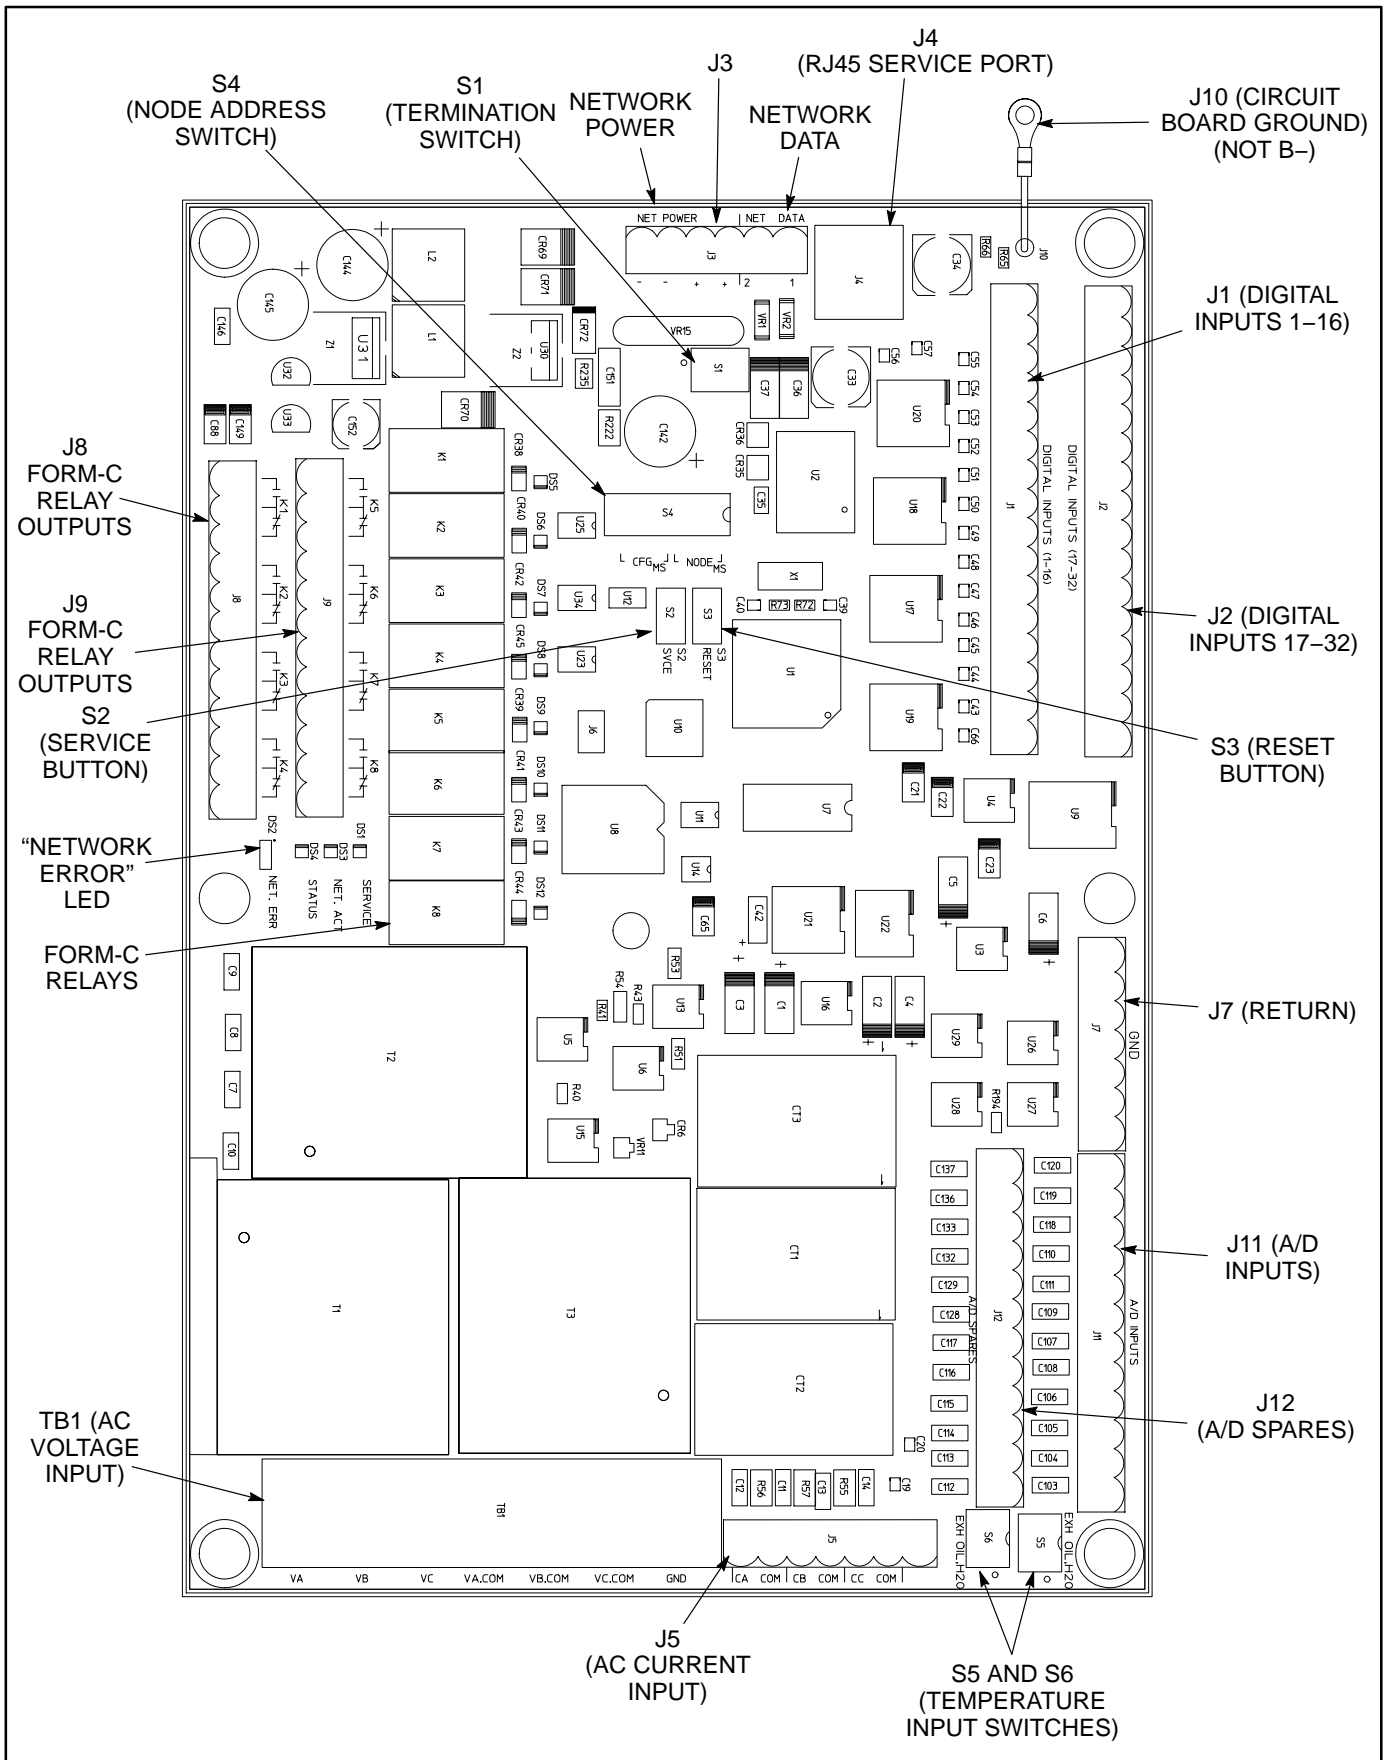

FIGURE 1. GENERATOR SET CONTROL COMMUNICATIONS MODULE
The CCM-G has eight 250 volt, 3 amp Form-C relay outputs (see Figure 1). The relays are controlled from the network and are used to transmit start/stop/reset control signals and five customer-defined events.
7. Set the Temperature Input switches (see Figure 1) to either “EXH” (80–390 ohm exhaust temperature RTD) or “OIL.H2O” (500–2200 ohm oil/water temperature RTD). For more information, see the Controls Communications Module section of the *PowerCommand Network Installation and Operation Manual (900–0529)*.
8. If the CCM-G is terminated, the termination switch S1 must be set (see Figure 1). This is accomplished by moving it to the ON or TERM position.